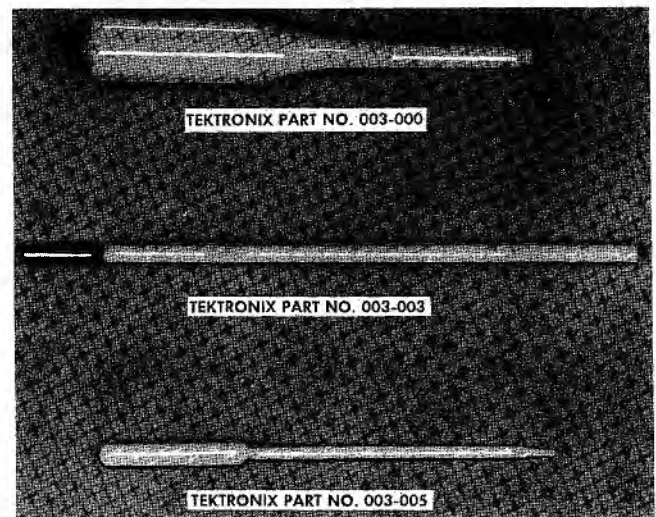

Fig. 6-1. Alignment tools required to recalibrate the Type 536 Oscilloscope.
- The square-wave generator required must have the following specifications: (1) output frequencies of 50 Kc, 100 Kc, and 400 Kc; (2) output amplitude of about 250 millivolts; and (3) risetime no more than 20 millimicroseconds (when properly terminated).
8. Alignment tools (see Fig. 6-1).